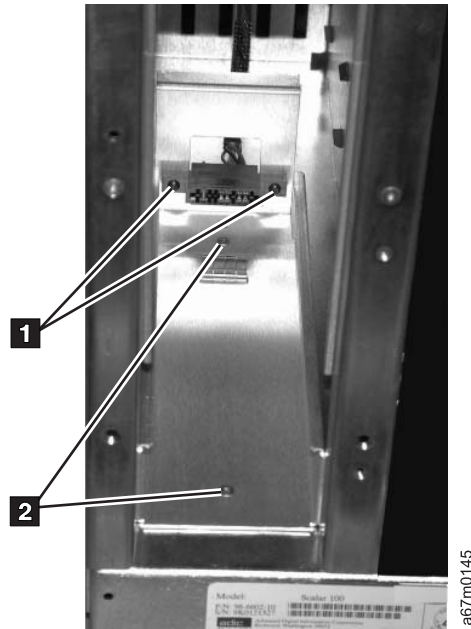

Figure 8-29. View of the RMU Bracket Sub-Assembly and RMU Interface Cable Connector
5. Remove the two T8 Torx screws (**1** in Figure 8-29) that secure the RMU Bracket Sub-Assembly to the bottom of the chassis and slide the bracket out of the chassis.